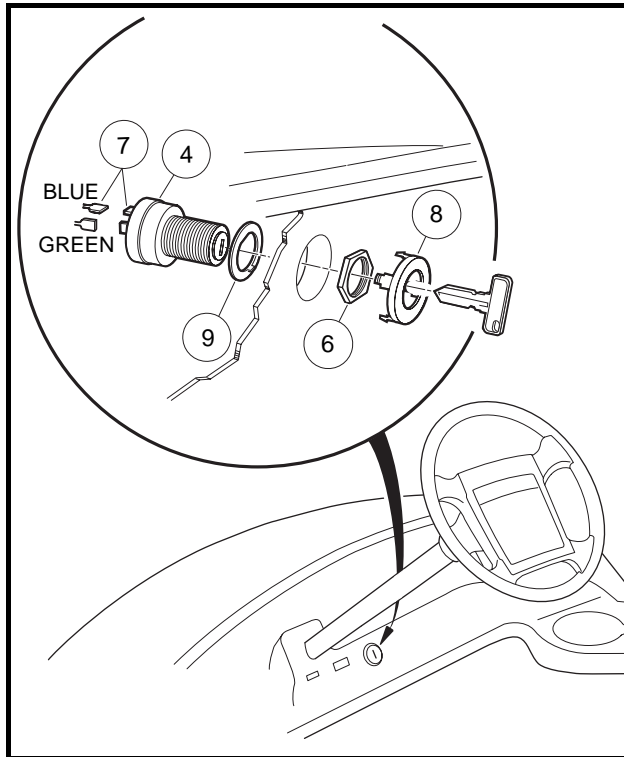

Figure 12-2 Key Switch
4. From the back of the instrument panel, push down on the retaining tabs surrounding the key switch (4) and remove the key switch cap (8). Hold the key switch and remove the switch retaining nut (6) from the outside of the instrument panel. **(Figure 12-2, Page 12-2).**
1. Position the key switch and flat washer (9) in the instrument panel, then install and tighten the switch retaining nut (6) to 40 in-lb (4.5 N·m). Install key switch cap (8) in center dash **(Figure 12-2, Page 12-2)**.